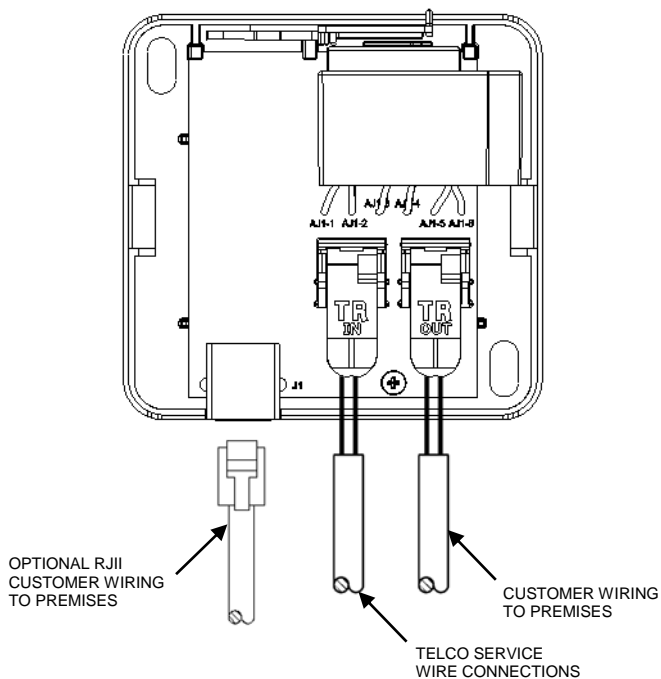

Figure 2
4. Push down the IDC rocker to the closed position for termination. See Figure 2 for wiring.
6. Push down the IDC rocker to the closed position for termination. See Figure 2 for wiring.
7. If the customer premise wiring is fitted with an RJ11 connector (See Figure 2), you may use the RJ11 jack in place of the IDC (marked "OUT") as mentioned in step 5.